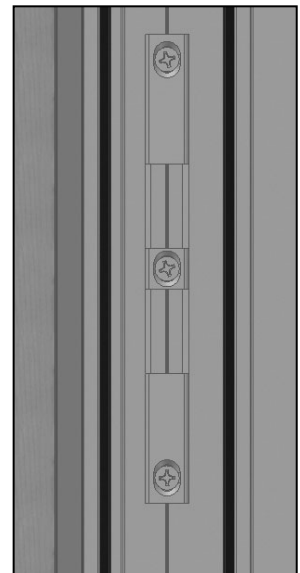

FIG. 21
- C) Adjust keeper if needed. (Fig. 21)